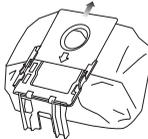

Fig. 12
- 5 Slide the dust bag out of the holder, taking care not to spill any dirt, and throw the bag away. (Fig. 12)